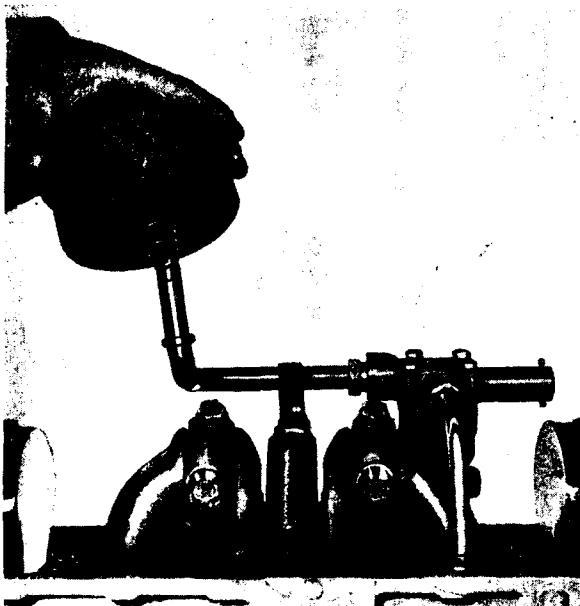
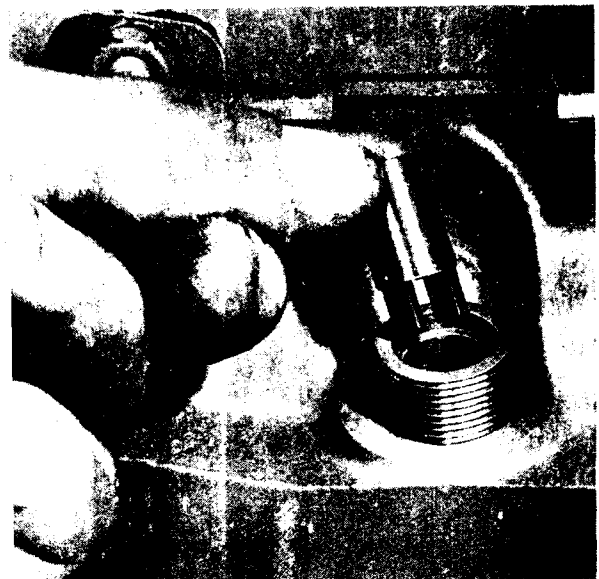

Fig. N.2.
Fig. N.4.
2. Remove strainer from end of lubricating oil suction pipe. (Refer to Fig. N.2). Remove tachometer drive shaft retaining circlip. See Fig. N.3. Withdraw tachometer drive shaft, See Fig. N.4.